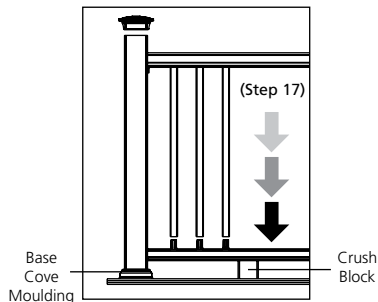

Figure 17
8. Ensure that the base cove moulding is in place at the bottom of the posts (Fig 17).
9. Cut the crush block to the desired height (consult local building official for the proper spacing between the deck and the railing). Place crush block on the deck surface midway between the posts (Fig 17).
17. Gently push down on the top rail until the ends of the balusters contact the top surface of the bottom rail (Fig 17).